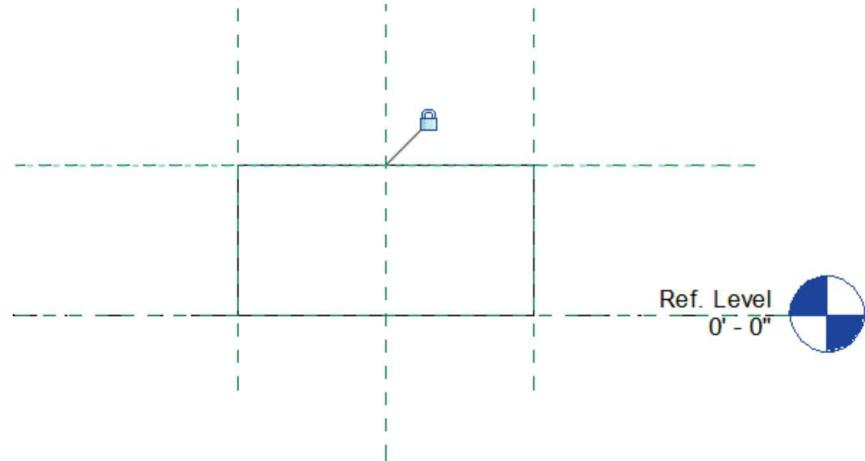

FIGURE 17-2.14 Aligning 3D geometry to reference planes
25. **Align** and **Lock** the top of the box, which is 1'-0" high, to the top *Reference Plane* (Figure 17-2.14).